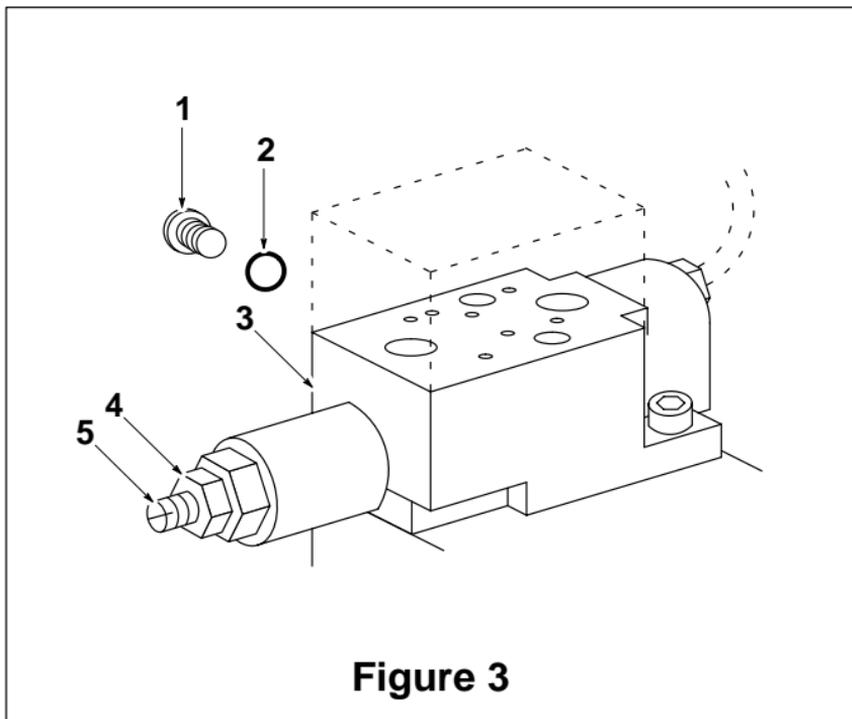

Figure 3
1. Loosen locknut (4) (see figure 3).
2. Turn adjusting screw (5) in (clockwise) until it bottoms out.
3. Turn adjusting screw (5) out (counterclockwise) $4\frac{1}{2}$ turns.